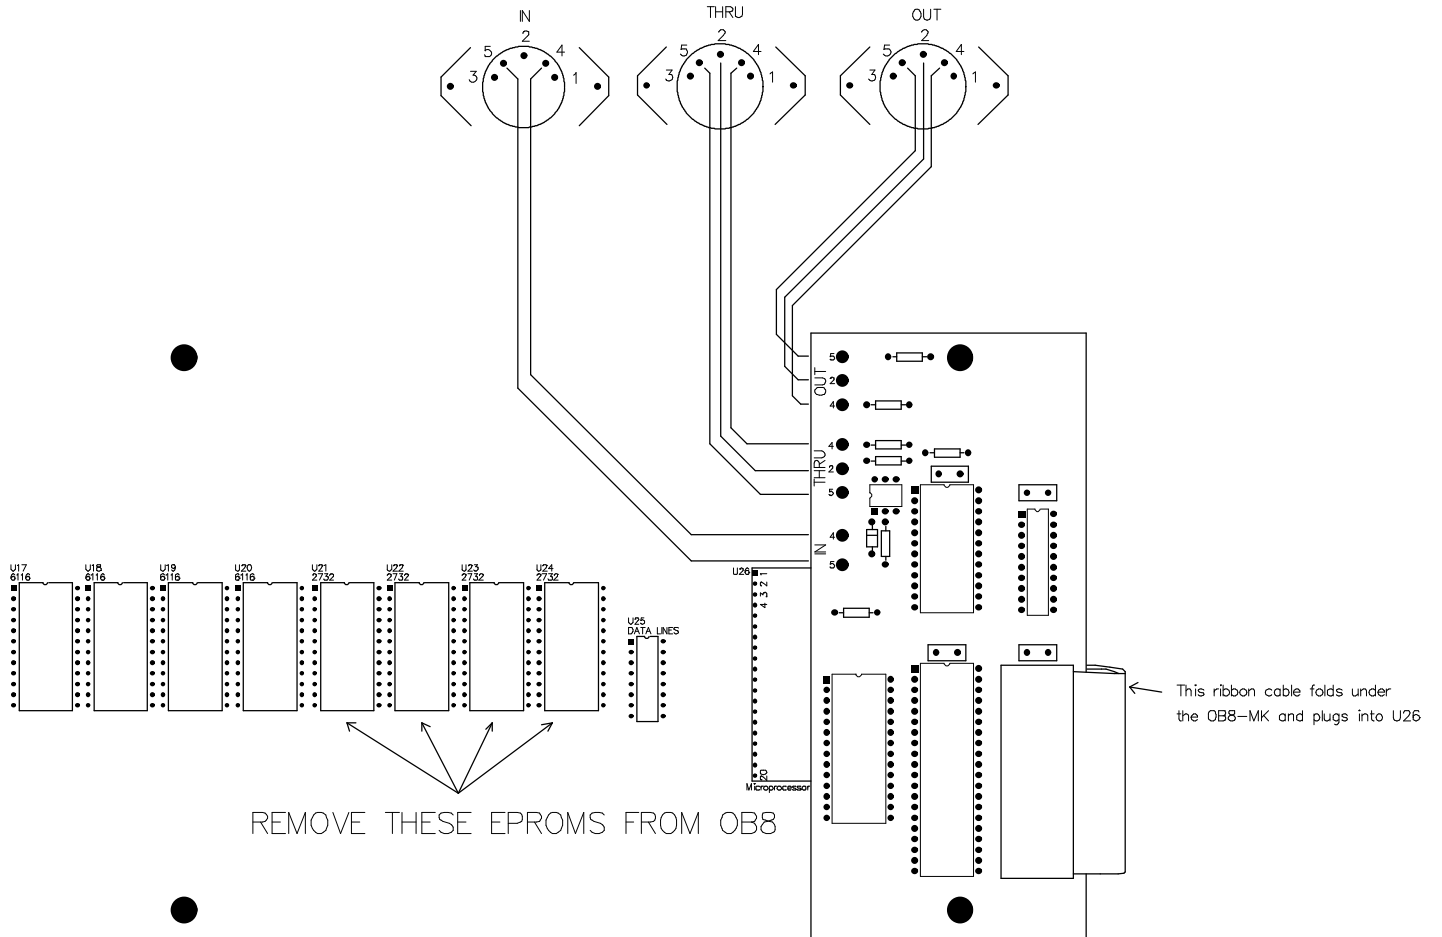

FIGURE 2
- o Carefully plug the 40 pin ribbon cable in socket U26 as shown in Figure 2. The cable routes under the OB8-MK.
- o Solder the eight wires to the 3 MIDI jacks as shown in Figure 2. (Notice the orientation of the three "OUT" wires.)